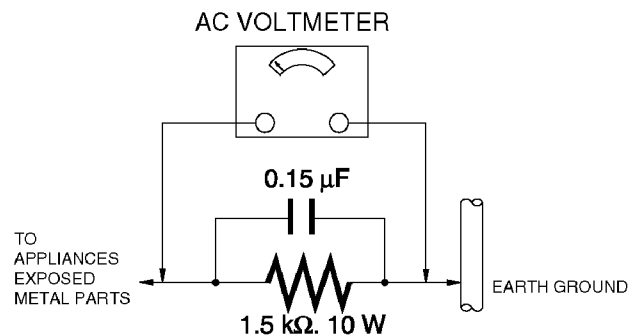

Figure 1
2. Connect a 1.5 k Ω , 10 W resistor, in parallel with a 0.15 μ F capacitor, between each exposed metallic part on the set and a good earth ground, as shown in Figure 1.